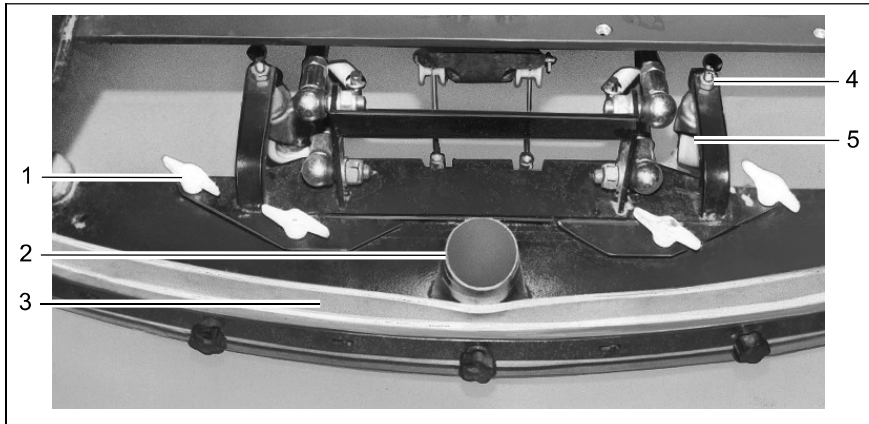

Fig. 8
5. Slide the squeegee from the rear under the lowered holding attachment and fix the squeegee to it with the four wing nuts (Fig. 8/1).
6. Attach the suction hose to the connection nozzle (Fig. 8/2) of the
The squeegee must be set up on a level floor according to the conditions in which it is to be used. The squeegee must stand vertically on the floor (adjusted at the factory). The sealing strip (Fig. 8/3) should bend slightly to the rear when the vehicle is in operation. Support rollers (Fig. 8/5) limit its movement toward the floor. These support rollers must be adjusted in order to raise the contact surface of the squeegee:
- Loosen the counternuts (Fig. 8/4) and raise the support rollers on the left and right evenly (turn screw counterclockwise and lock again).